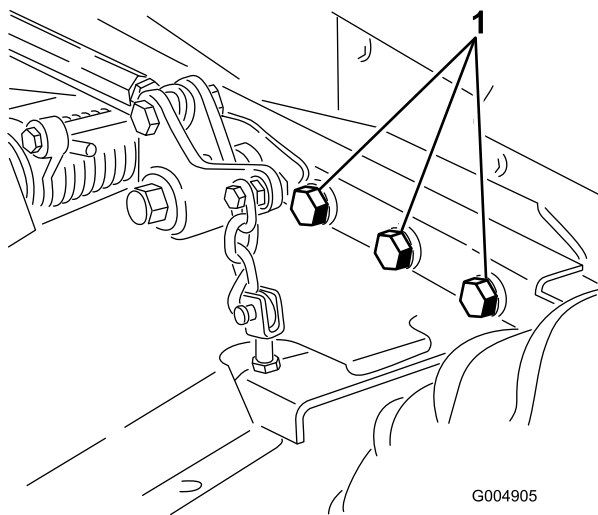

Figure 80
4. Check all fasteners for looseness and tighten them as necessary. Especially torque the 6 bolts securing the mower deck frame to the traction unit (Figure 80) to 265 ft-lb (359 N·m).